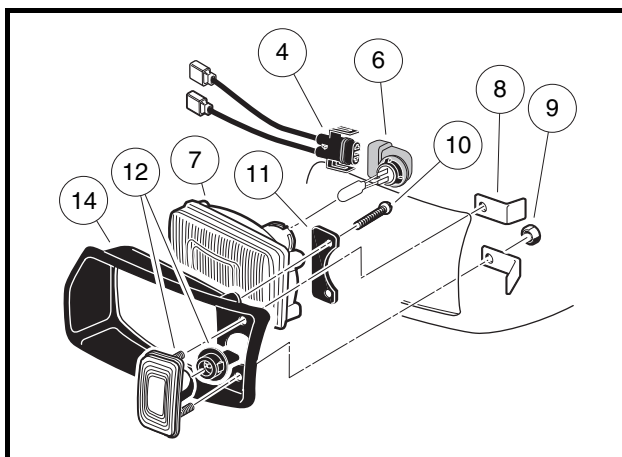

Figure 12-43 Headlight Assembly
3. From the front of vehicle, reach under cowl and turn the wire harness/halogen bulb assembly (4 and 6) clockwise one-quarter turn (**Figure 12-43, Page 12-37**).
4. Remove the wire harness/halogen bulb assembly (4 and 6) from the headlight lens (7).
5. Lift the retaining tabs on the connector (4) and remove halogen bulb assembly (6).
1. Connect wire harness (4) to the halogen bulb assembly (6). The retaining tab should lock onto the halogen bulb assembly (**Figure 12-43, Page 12-37**).
2. From the front of vehicle, reach under cowl and insert wire harness/halogen bulb assembly (4 and 6) into the headlight lens (7).